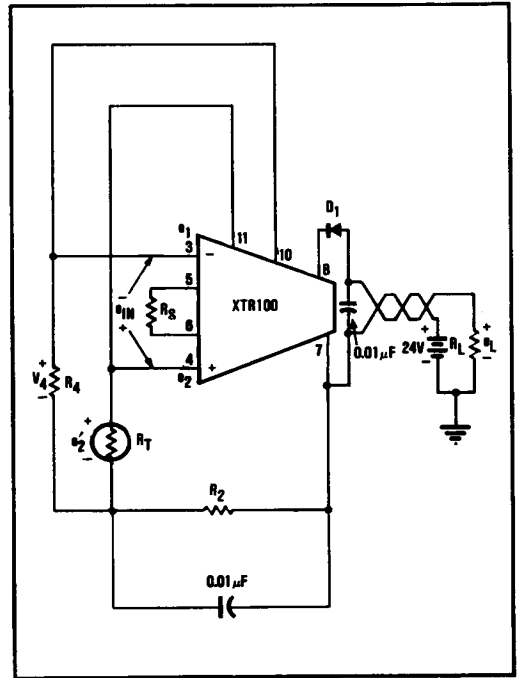

FIGURE 7. Circuit for Example 1.
**EXAMPLE 1 - RTD Transducer** shown in Figure 7. Given a process with temperature limits of +25°C and +150°C, configure the XTR100 to measure the temperature with a platinum RTD which produces 100Ω at 0°C and 200Ω at +266°C (obtained from standard RTD tables). Transmit 4mA for +25°C and 20mA for +150°C. Computing  $R_s$ .
In order to make the lower range limit of 25°C correspond to the output lower range limit of 4mA the input circuitry shown in Figure 7 is used.
This is a general error expression. The composition of each component of error depends on the circuitry inside the XTR100 and the particular circuit in which it is applied. The circuit of Figure 7 will be used to illustrate the principles.
For the circuit of Figure 7,
Given the circuit in Figure 7 with the XTR100B specifications and the following conditions:  $R_T = 109.4\Omega$  at  $25^\circ\text{C}$ ,  $R_T = 156.4\Omega$  at  $150^\circ\text{C}$ ,  $I_0 = 4\text{mA}$  at  $25^\circ\text{C}$ ,  $I_0 = 20\text{mA}$  at  $150^\circ\text{C}$ ,  $R_S = 123.3\Omega$ ,  $R_4 = 109\Omega$ ,  $R_1 = 250\Omega$ ,  $R_{LINE} = 100\Omega$ ,  $V_{D1} = 0.6\text{V}$ ,  $V_{PS} = 24\text{V} \pm 0.5\%$ . Determine the % error at the upper and lower range values.